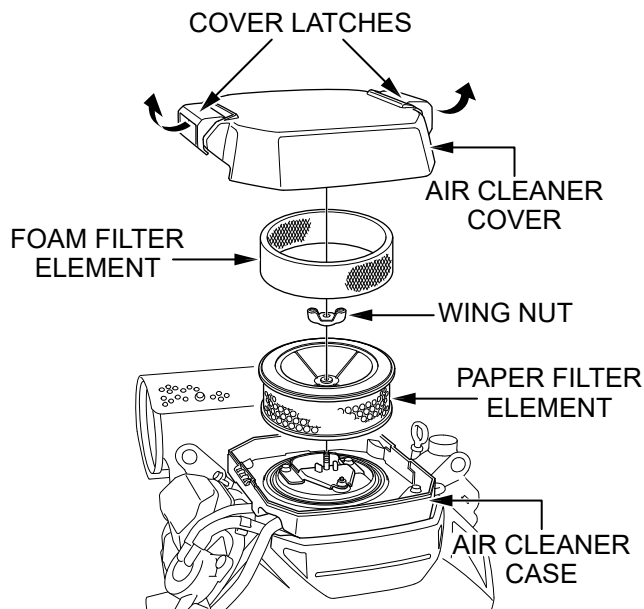

Figure 31. Engine Air Cleaner
The engine air cleaners are equipped with an outer, **foam filter element** and an inner, **paper filter element** (Figure 31). Remove the **air cleaner cover** and inspect the filter elements. Clean or replace dirty filter elements. **ALWAYS** replace damaged filter elements.
2. Place the **air cleaner cover latches** in the unlocked position, then remove the **air cleaner cover** (Figure 31).
3. Remove the **wing nut** from the **paper filter element** (Figure 31).
4. Remove the **paper filter element** and **foam filter element** from the **air cleaner case** (Figure 31).
7. To clean the paper filter element as shown in Figure 31, tap the filter element several times on a hard surface to remove dirt, or blow compressed air, not to exceed 30 psi (207 kPa, 2.1 kgf/cm²), through the filter element from the inside out.